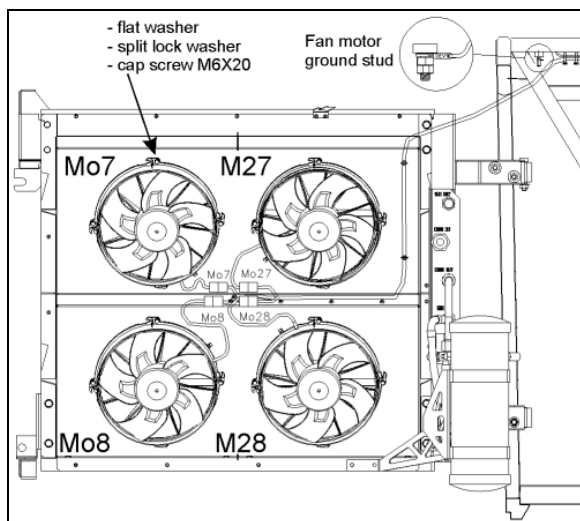

FIGURE 39: CONDENSER FANS
2. Unplug the fan harness connector (Figure 39).